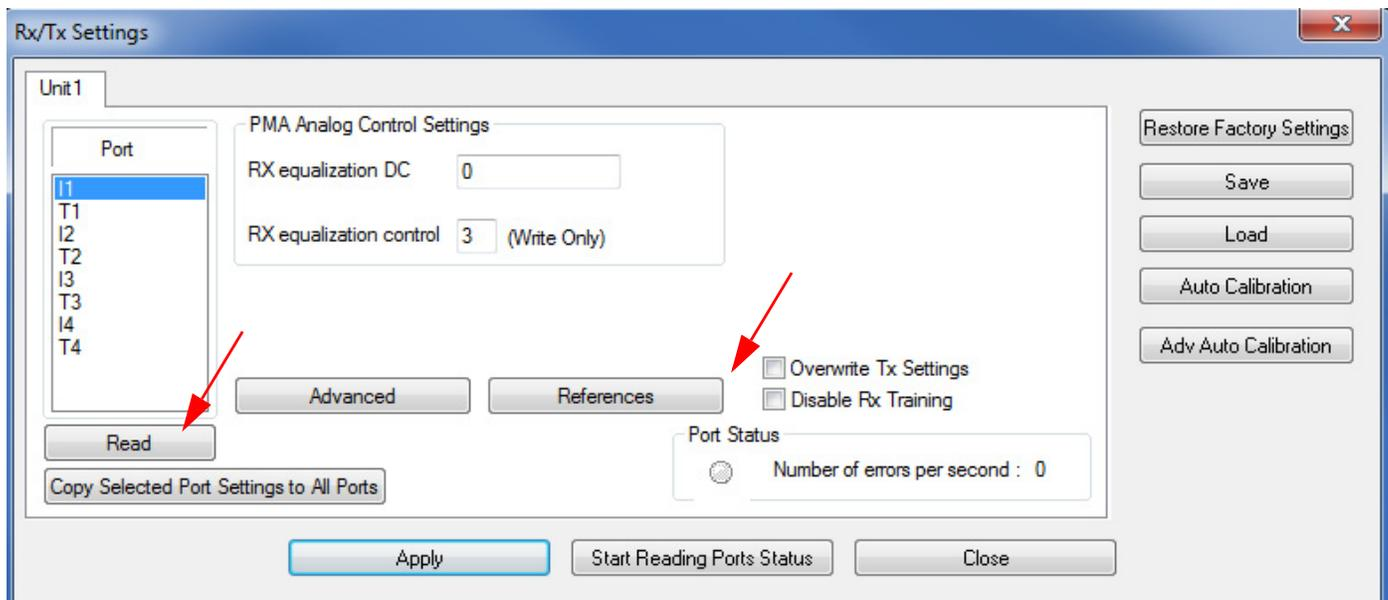

Figure 3.139: Rx/Tx Settings Dialog
1. Select **Setup > TxRx Vout & Preemphasis** to display the Rx/Tx Settings dialog (see Figure 3.139 on page 208).